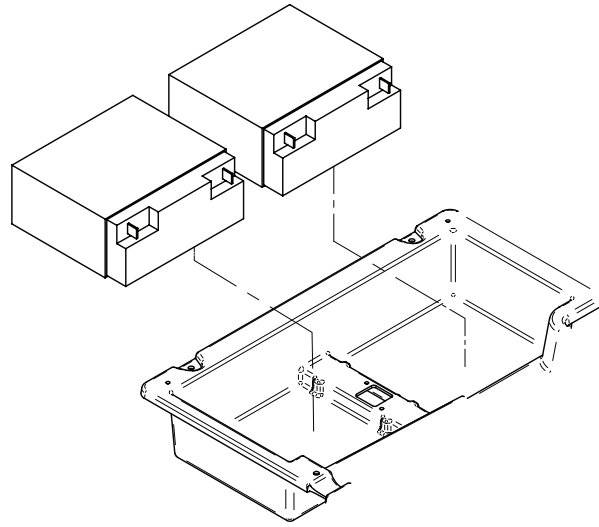

Figure 69 – Batteries
6. Unplug the power cord from the wall outlet and turn battery switch **OFF** (0). The bed should now have no power.
8. Lift up on both batteries and stand them upright (Figure 69).